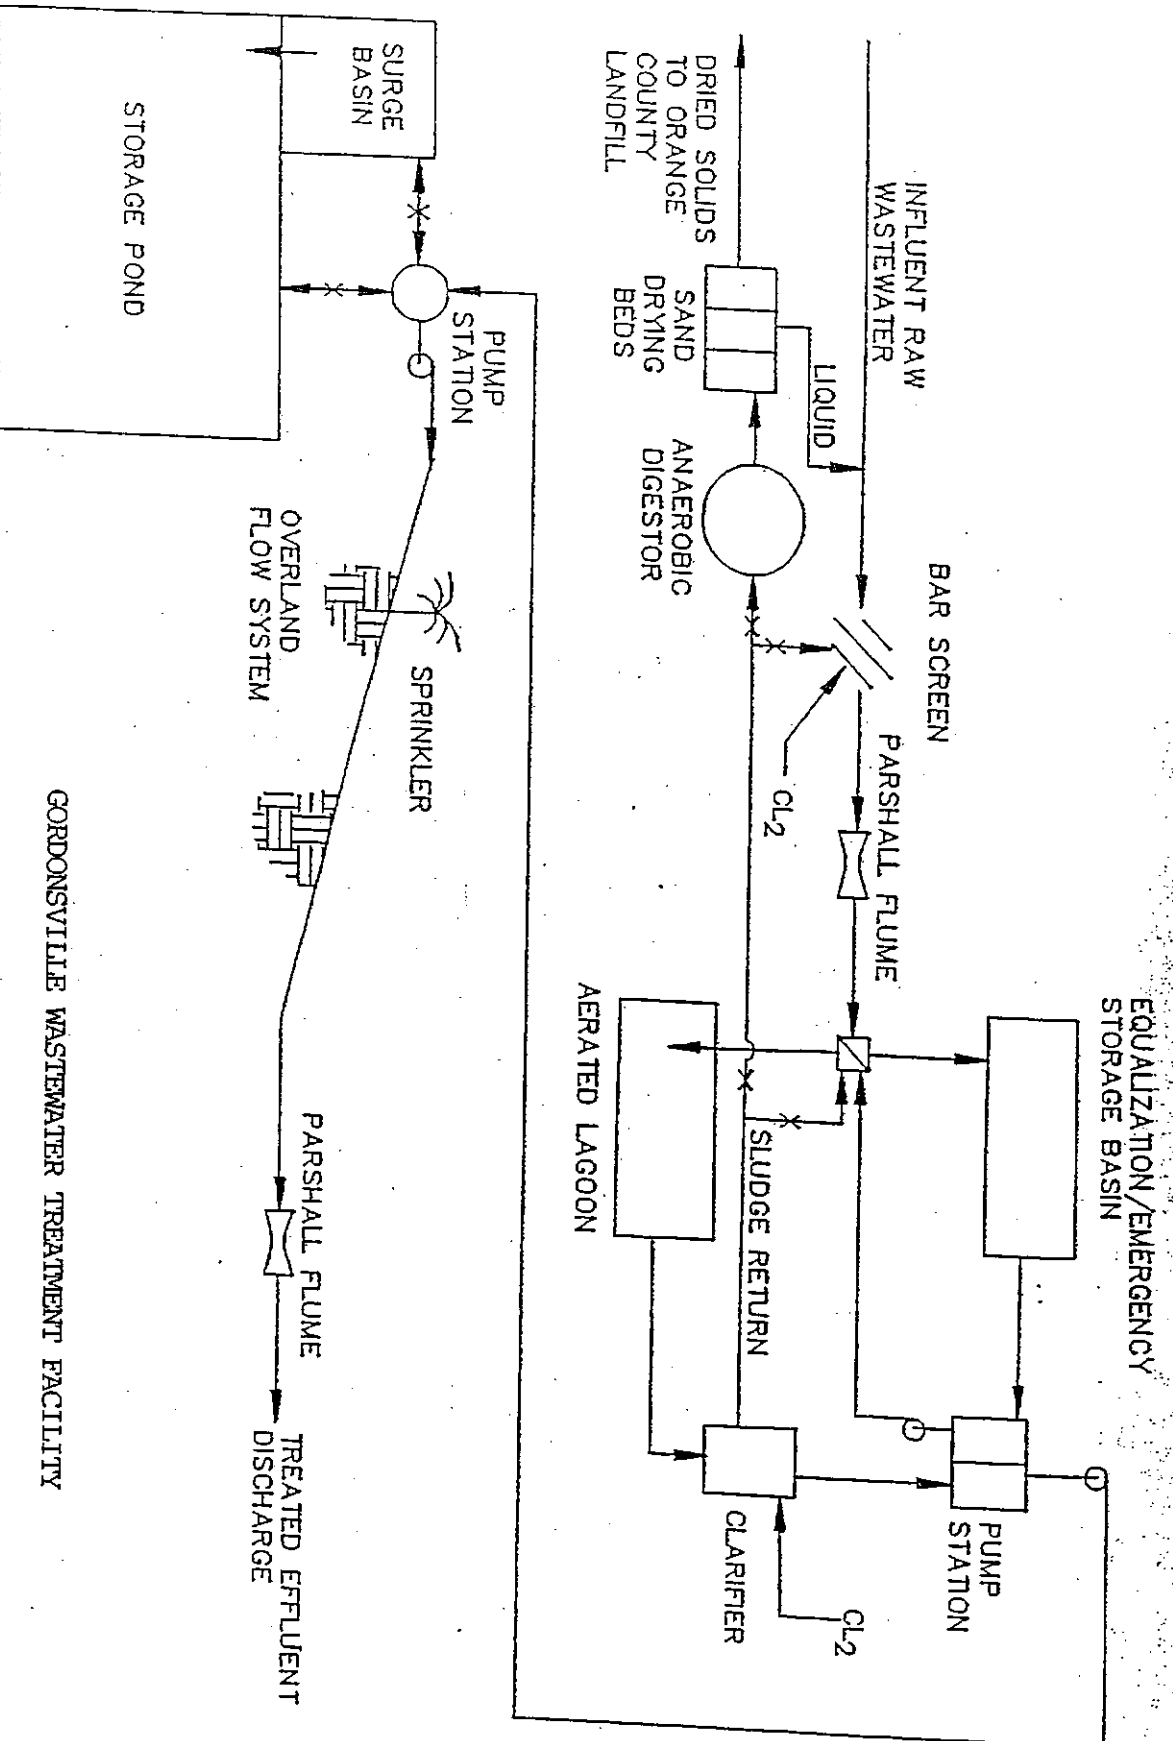

FIGURE 2-1
6. **Line Drawing.** Provide a line drawing and/or a narrative description that identifies all sewage sludge processes that will be employed during the term of the permit including all processes used for collecting, dewatering, storing, or treating sewage sludge, the destination(s) of all liquids and solids leaving each unit, and all methods used for pathogen reduction and vector attraction reduction. See Figure 2-1